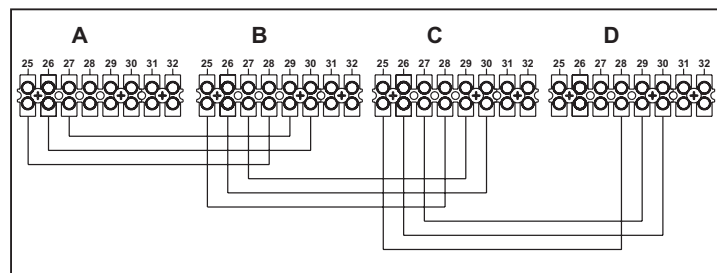

fig. 23 - Connection in cascade
1. Connect the modules as shown in fig. 23 (example with 4 modules)
If this does not occur, disconnect the power and check the wiring in fig. 23.